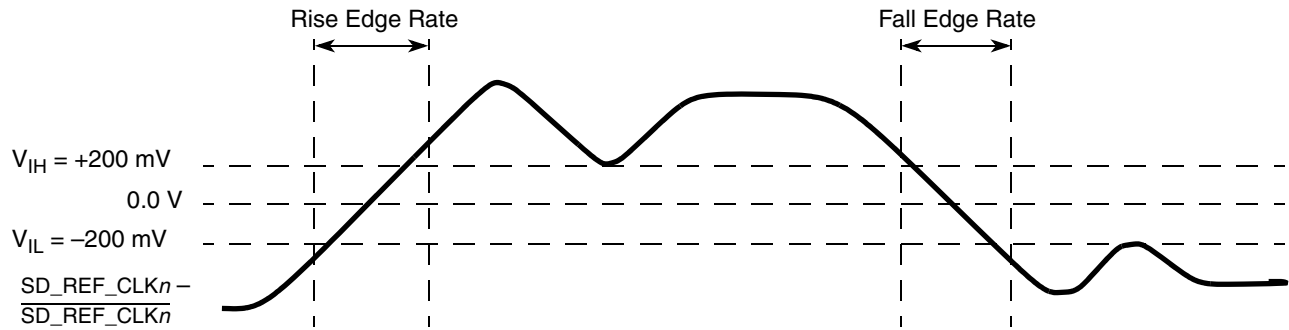

Figure 37. Differential Measurement Points for Rise and Fall Time
only one signal trace curve in a differential waveform. The voltage represented in the differential waveform is not referenced to ground. See Figure 37 as an example for differential waveform.
3. Measured from –200 mV to +200 mV on the differential waveform (derived from SD_REF_CLK \bar{n} minus $\overline{\text{SD_REF_CLK}}_n$). The signal must be monotonic through the measurement region for rise and fall time. The 400 mV measurement window is centered on the differential zero crossing. See Figure 37.